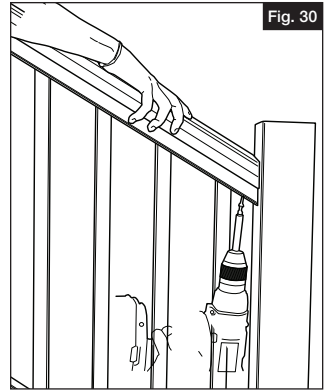

Fig. 30
Using the #10 x 2" painted screws (J) install two of the screws upward from underneath each end through the pre-drilled location. This will secure the bracket, beam, and top rail together (Fig. 30).